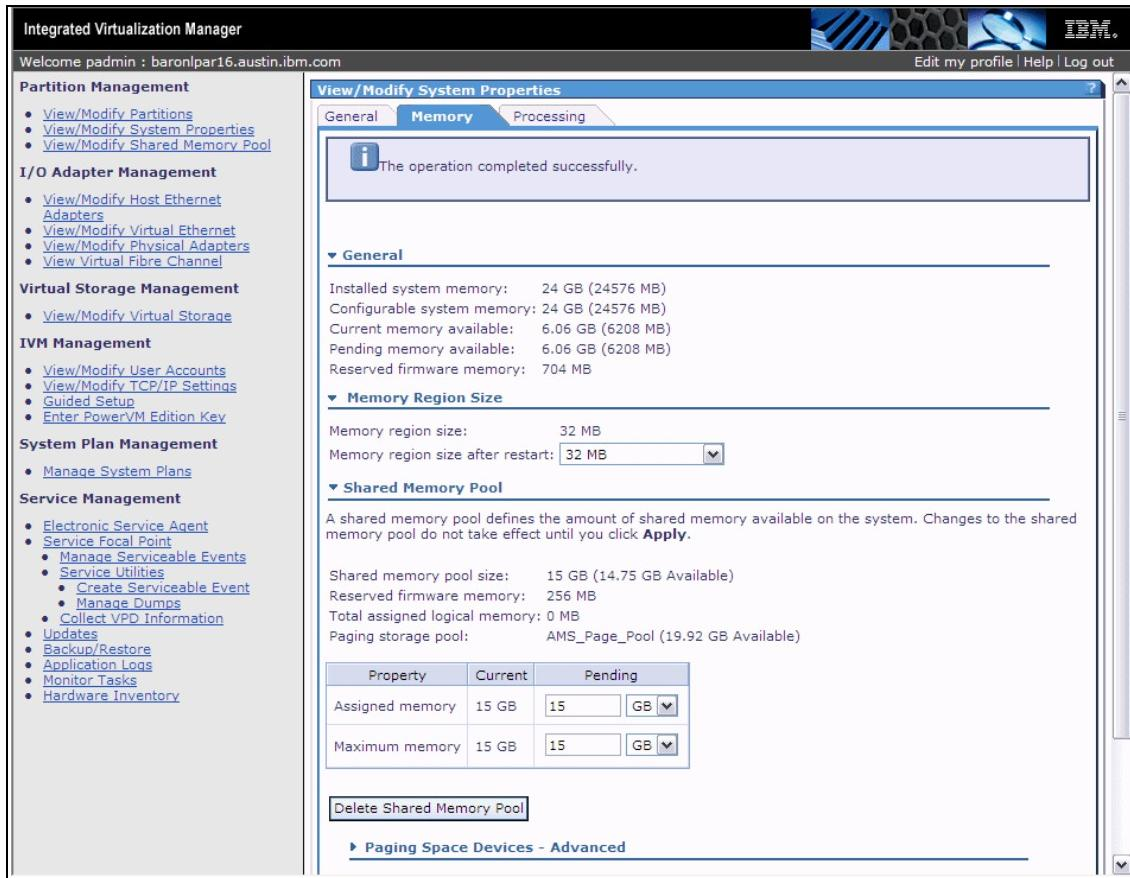

Figure 5-8 Shared memory pool information after creation
6. Click the **Apply** button to create the shared memory pool and the assignment of the paging storage pool as shown in Figure 5-8 on page 191.